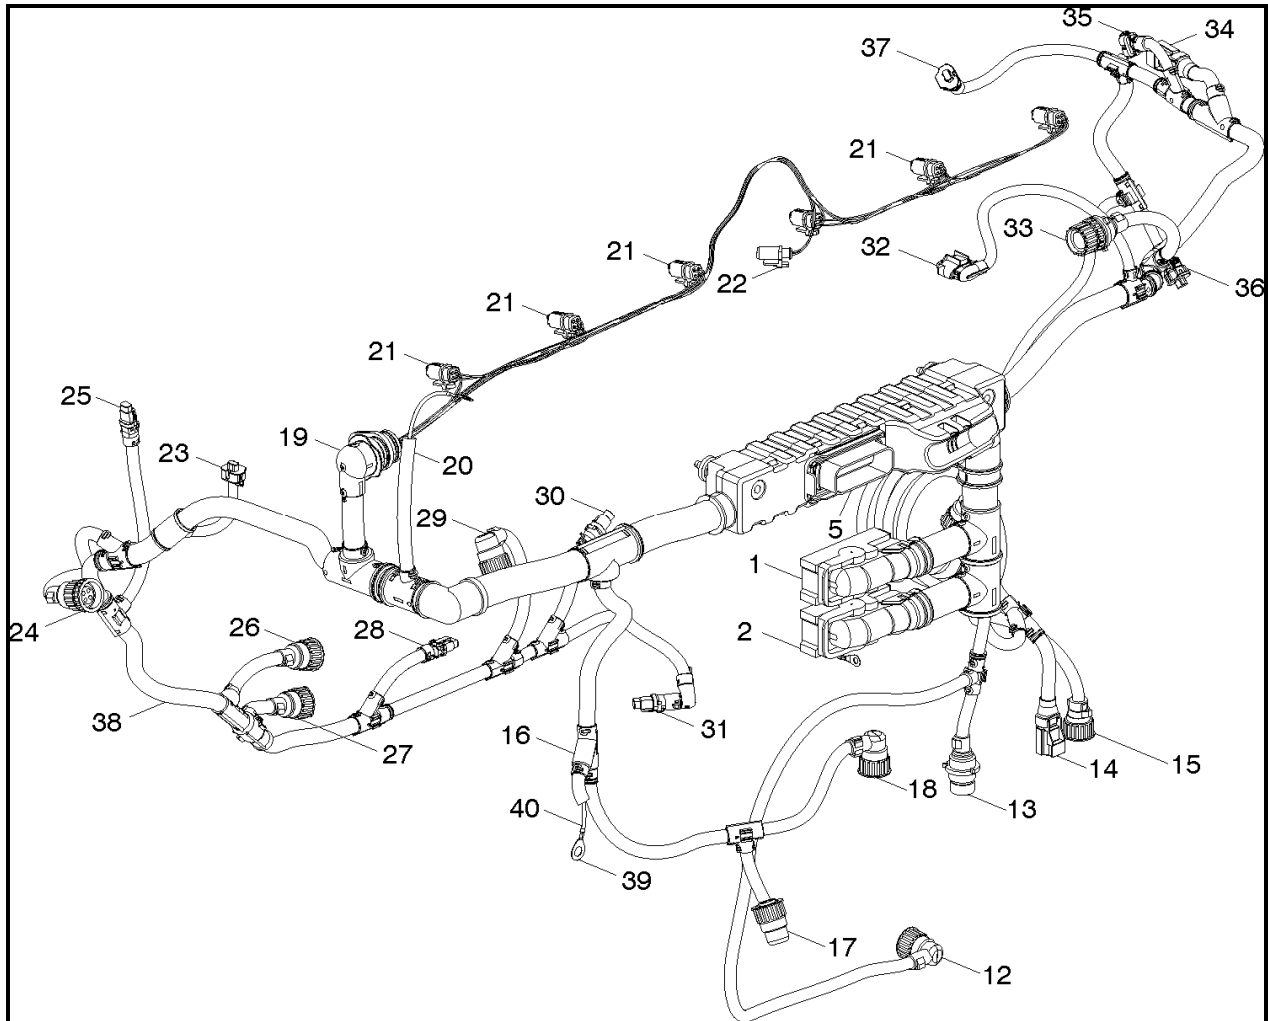

FIGURE 1: ENGINE HARNESS
6. Disconnect the engine harness connections on the hot side of the engine (fig. 1, 2 & 6). Remove all nylon cable ties and P-clamps.